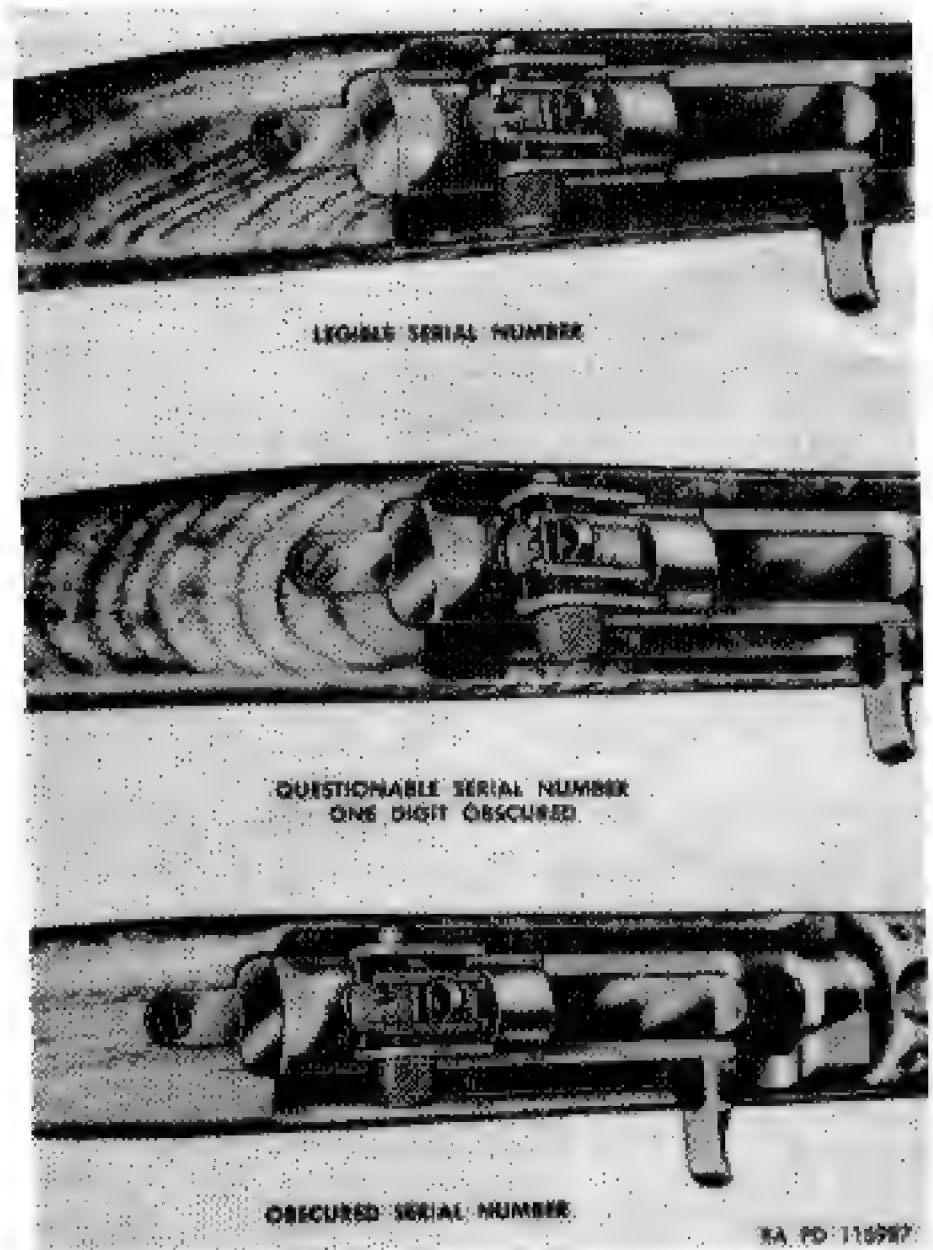
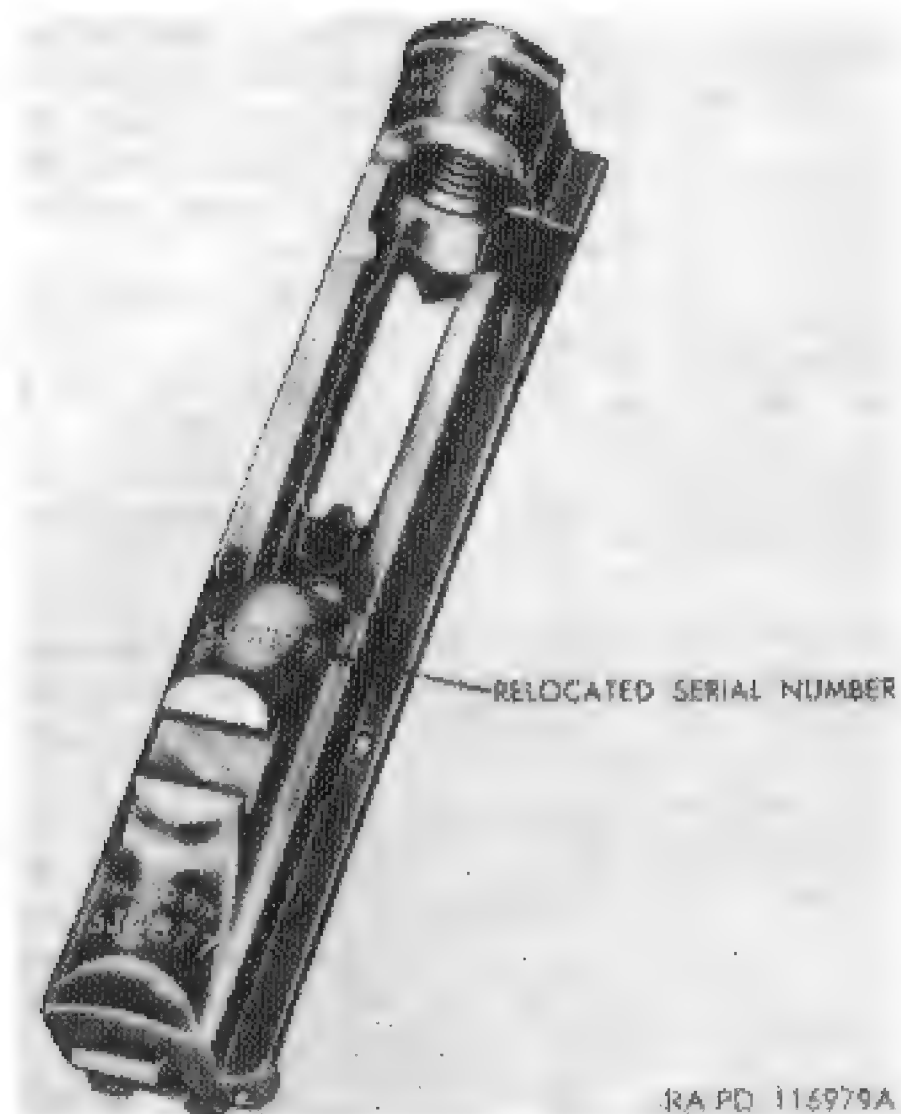

Figure 85. Serial numbers on cal. .30 carbines.
Figure 86. Relocated serial number on cal. .30 carbines.
- (2) Wash chips from reamer and chamber with lard oil after removing from chamber.
- (3) Handle reamer with care to prevent it from being chipped or picked. Never turn reamer backwards in chamber as this tends to dull the cutting edges.
*e. Restoring Serial Numbers (FIELD MAINTENANCE).* Serial numbers which have become obscured because of the installation of the adjustable rear sight must be restored. Since the degree of obscurity varies, this will be effected in one of two ways: (1) if the serial number is questionable (Fig. 85) (one digit obscured), use white graduation filler 52-F-100-230, listed in Department of the Army Supply Catalog ORD 3 SNLK-1, to improve the legibility; and (2) if the serial number is obscured (Fig. 85), it will be relocated on the receiver bridge directly forward of the rear sight platform (Fig. 86).
3. Manually position and space the 3/32-inch stamping fixture on the bridge of the receiver directly forward of the rear sight platform (Fig. 86). Strike the stamping fixture with one firm blow of the hammer to insure a neat and distinct impression. Repeat this procedure until all digits of serial number are transposed.